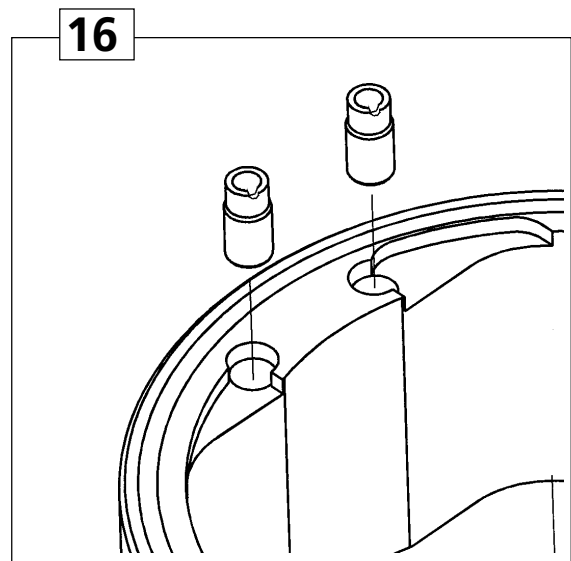

Fig. 16
- 1) Throttle valves/adapters; see fig 16 and 31.